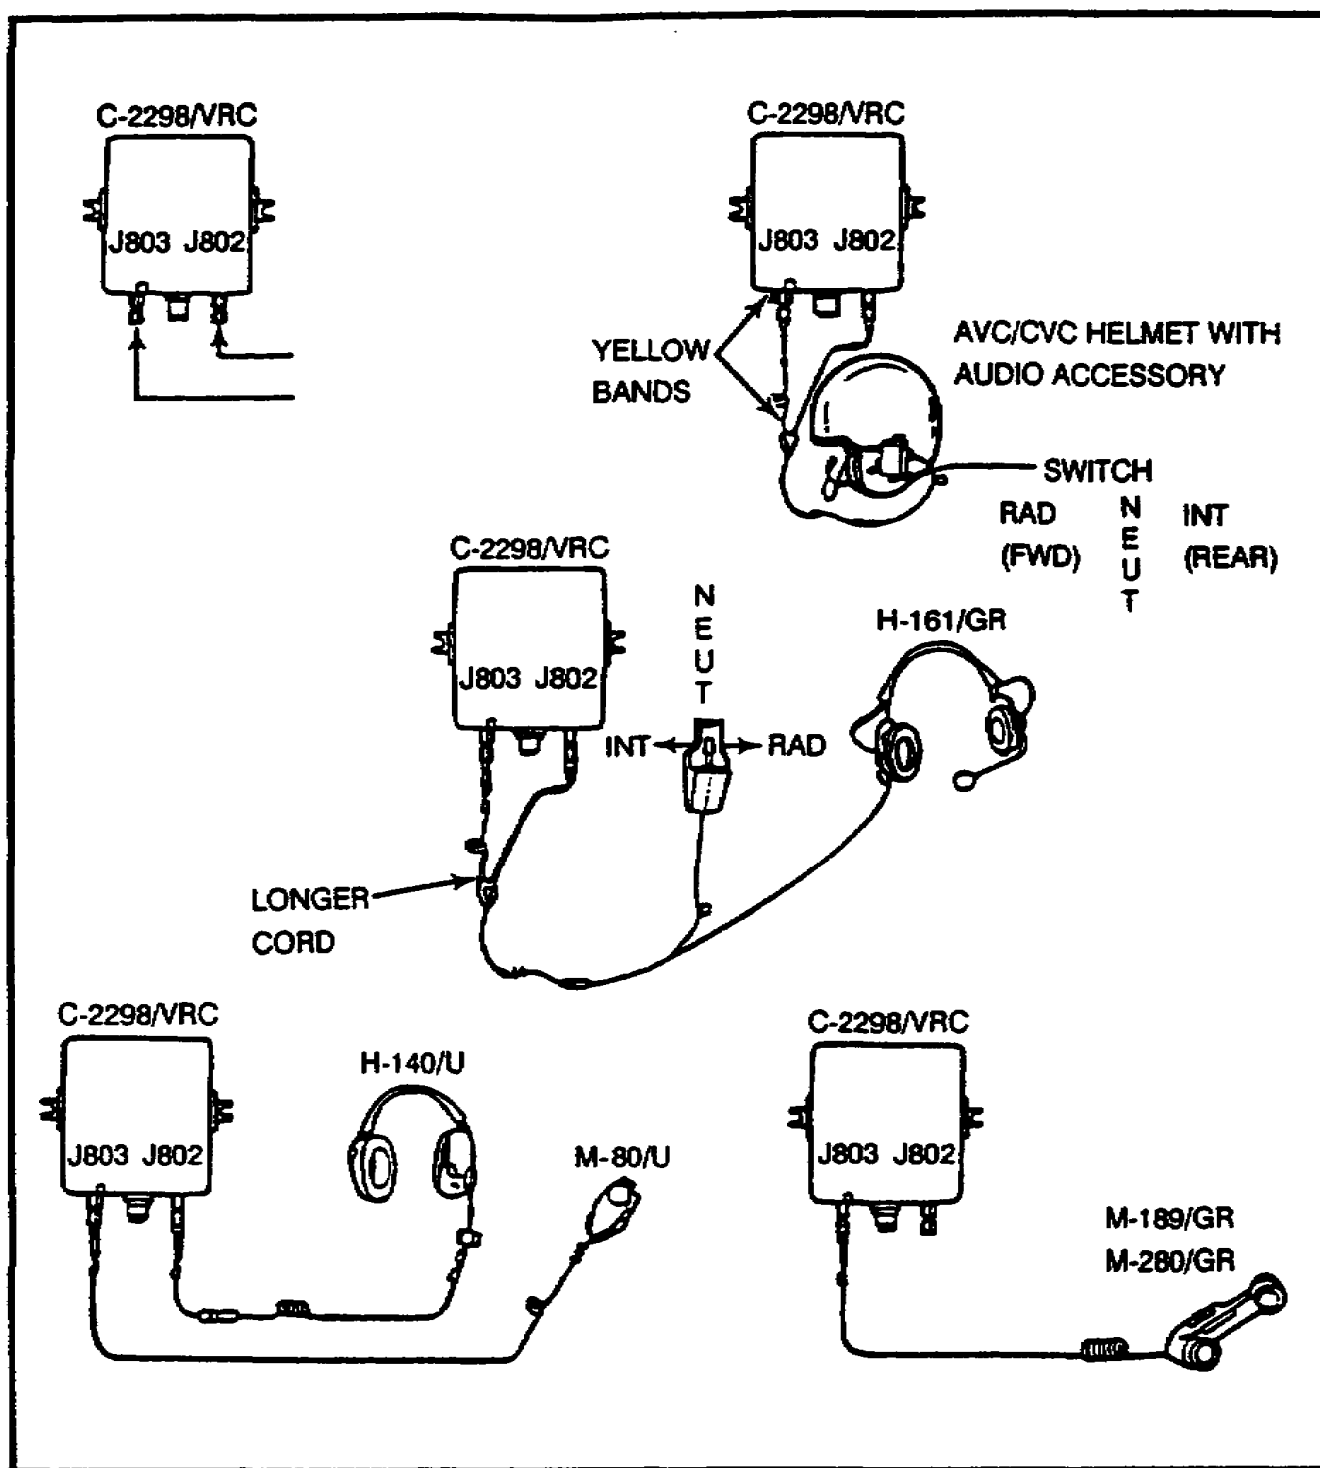

Figure 11. Typical connections of audio accessories to control boxes.
o. See Figure 11, connection of audio accessories to C-2298 control box jacks. Scan Figure 11 before going on.